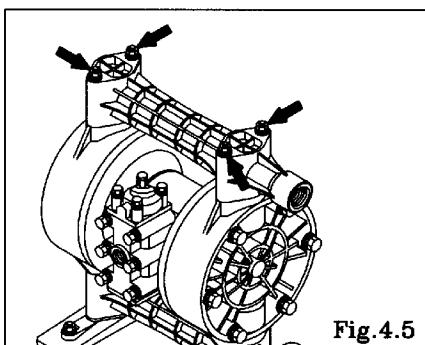

Fig.4.5
See [9. Exploded View] on after p. 11 (Fig. 4.5, 4.6, 4.7 and 4.8 show the NDP-20 BP□ [Thread type].)
- Remove the 4 retainer nuts from the upper side of tie rods, and remove the out manifold. [Fig.4.5]